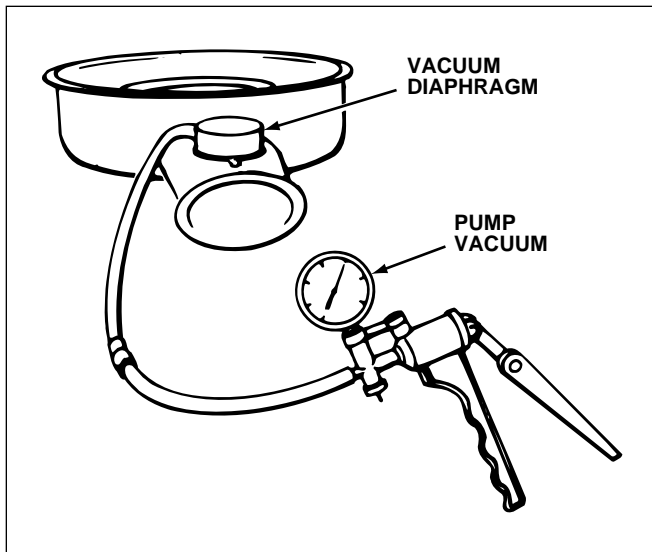

Fig. 5-8. Use a handheld vacuum pump to test the diaphragm on a vacuum motor.
3. Disconnect the hose and attach the hand-operated pump to the vacuum motor, figure 5-8